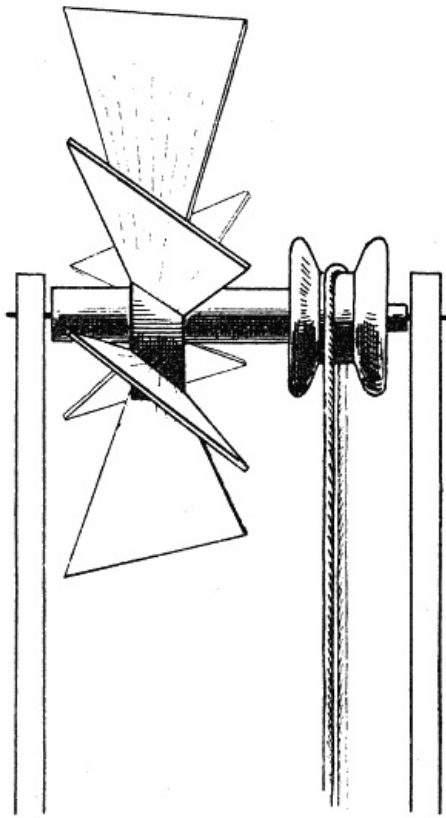

FIG. 67.
The main parts are: (1) a circular hub, about 2-1/2 to 3 in. in diameter, and 1 to 1-1/4 in. in thickness (for the smaller varieties a cotton reel will do admirably); (2) six or eight sails, each about 6 or 7 in. long and 3 in. wide at the extreme end, tapering down to a little more than the width of the hub at the other; (3) a hardwood axle; and (4) a driving wheel. For this last a cotton reel will do splendidly, especially one of those with wide flanges and a slender centre. The general arrangement is shown in Fig. 67.